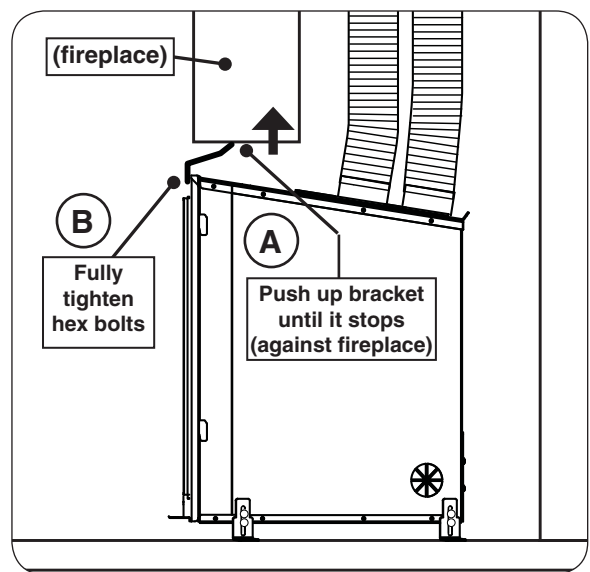

Fig. 34-2 Fasten retention bracket (if applicable)
1. Reach in and push up the loosely installed retention bracket until it stops (against fireplace), then use a  $\frac{7}{16}$ " open-end wrench to fully tighten the two hex bolts (from below fascia). See Fig. 34-2.